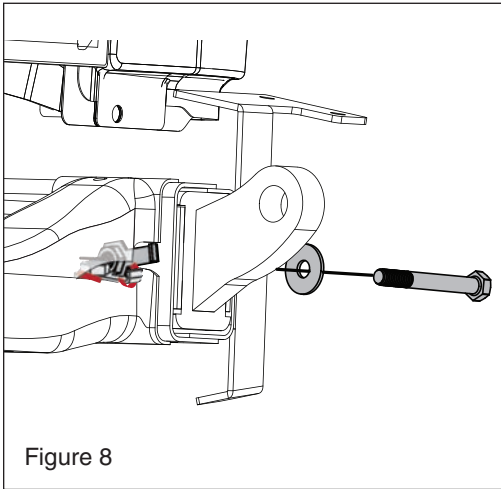

Figure 8
*Insert M12 Long hex head bolt, small washer and nut plate into remaining holes of side bracket using a 19mm socket. (see FIG8)*